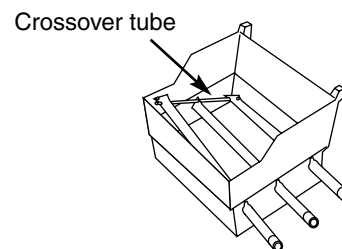

Figure 16
- Lift and twist the burner assembly slightly, to separate the crossover tube from the burners. Figure 16. Remove the burners from the cooking box.